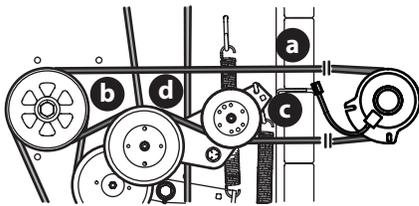

Figure 52
1. Remove the PTO belt (a) from the deck as instructed in the Deck Removal section then remove it from around the PTO clutch (Figure 52).
2. Route the PTO belt (a) (Figure 52).
3. After routing the belt around the PTO pulley (b), use a 1/2" drive in the idler pulley bracket (c) and turn towards the right of the mower to finish routing the belt around the idler pulley (d) (Figure 52).